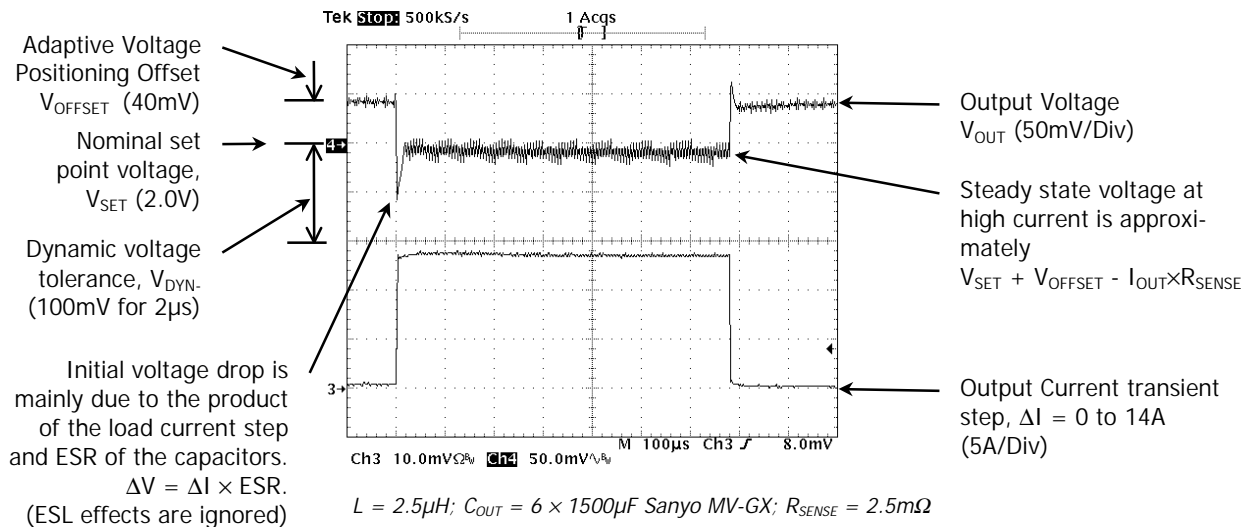

Figure 1: Adaptive Voltage Positioning
- Adaptive transient response – at low load, the DC set point is higher than the designated set point by about 40mV. At high loads, the output will be in the lower part of the allowable tolerance window. This technique results in added margin to handle transient load changes. See Figure 1.